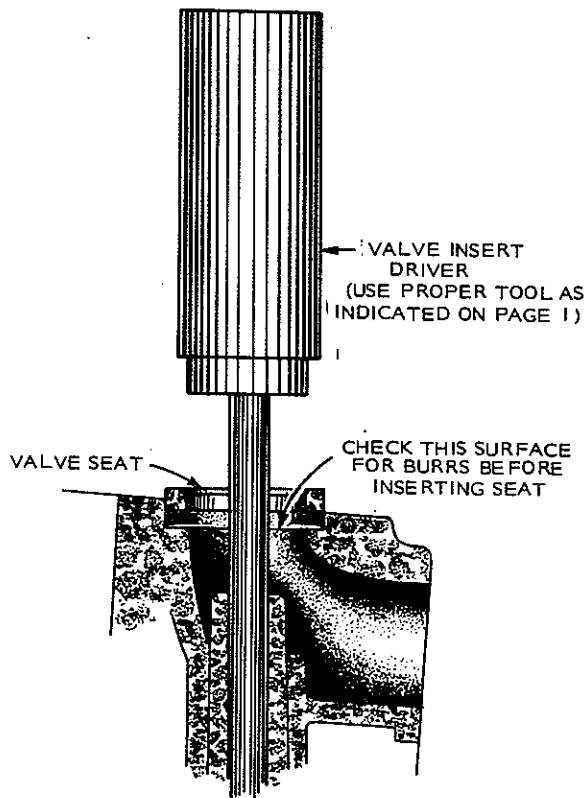

FIGURE 15-14. INSERTING NEW VALVE SEAT
3. Make certain that the valve seat insert rests solidly on the bottom of the recess all the way around its circumference, Figure 15-14. Refer to the *Tools* section for proper valve seat driver for each series of engines.